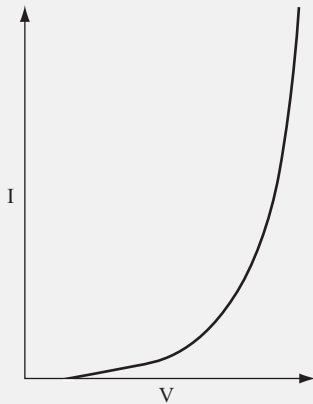
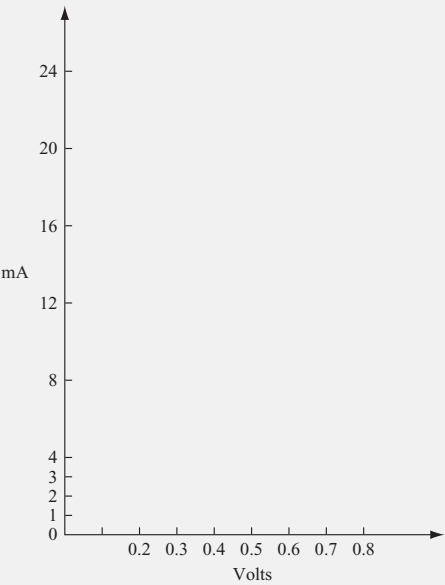

FIGURE 2.10
FIGURE 2.12
The objective of this project is to plot the V-I curve (also called a *characteristic curve*) of a diode, which shows how current flow through the diode varies with the applied voltage. As shown in Figure 2.10, the I-V curve for a diode demonstrates that if low voltage is applied to a diode, current does not flow. However, when the applied voltage exceeds a certain value, the current flow increases quickly.
- 7. Graph the points recorded in the table using the blank graph shown in Figure 2.12. Your curve should look like the one shown in Figure 2.10.